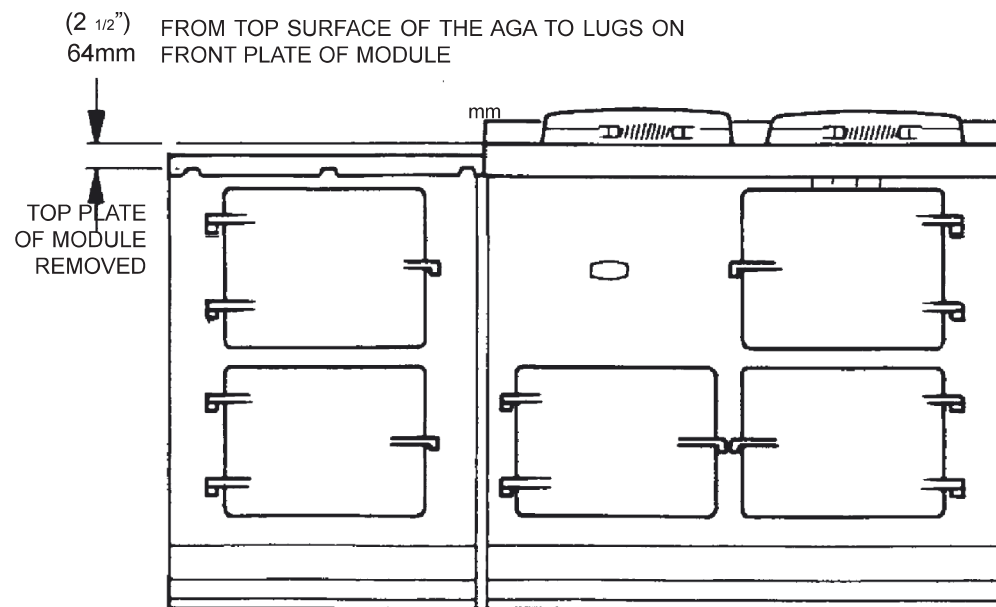

Fig 7
9. Levelling of the Simmering Plate on the main cooker can be carried out with its top plate in position and verified across the Module (See Fig. 7).